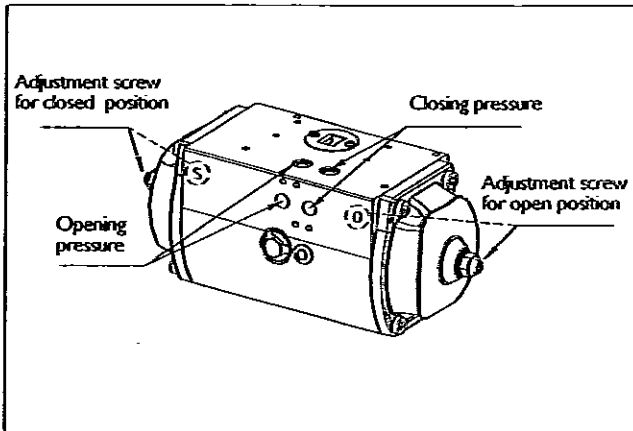

Fig. 19. Actuator connections
- The open or closed positions of the actuator can be identified either by using compressed air, see Fig. 19, or by checking the position of the pointer at the end of the drive shaft. The actuator is closed if the pointer on the coupling plate is transverse to the direction of the actuator's main shaft.
- Finally, the extreme positions of the valve are adjusted with the stop screws at the ends of the actuator. The location of the screws for adjusting the Close and Open positions of the valve are marked with letters on the ends of the actuator housing (see Figure 19).
Follow instructions given in Section 6.7.4. See also Fig. 19.
Follow instructions given in Section 6.7.6. See also Fig. 19.
Follow instructions given in Section 6.7.7. See also Fig. 19.